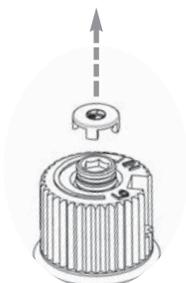

Fig.1
- 8) Remove the black protection cap by hand from the high-low knob (Fig.1).